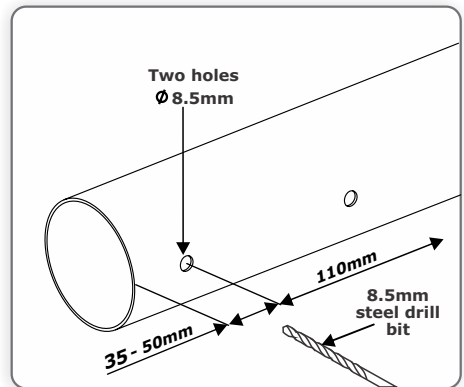

FIGURE 9
2. Measure and drill two holes following measurements shown in Figure 9 and mount the pole onto the traffic barrier to the boom coupling as per standard boom replacement procedure.